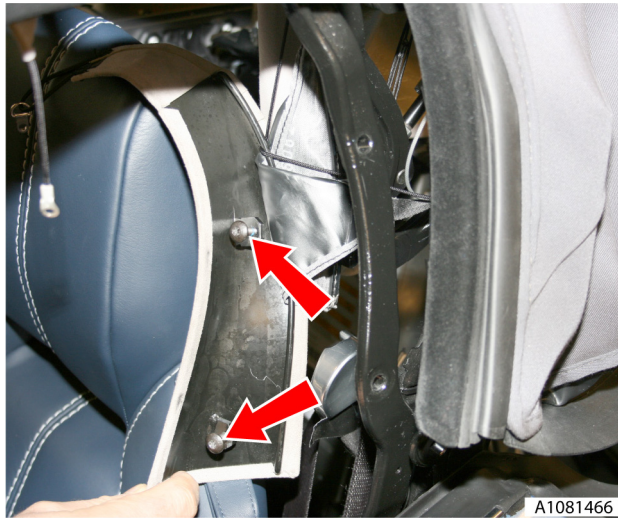

Fig. 5
9. Remove 2 screws securing B-post trim to roof frame, position trim aside (see Fig. 5).